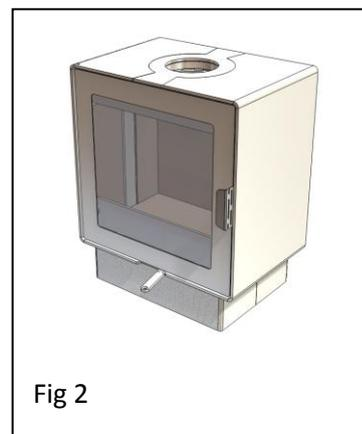

Fig 2
Step 1 Open the air control fully using the tool (**fig 2**)